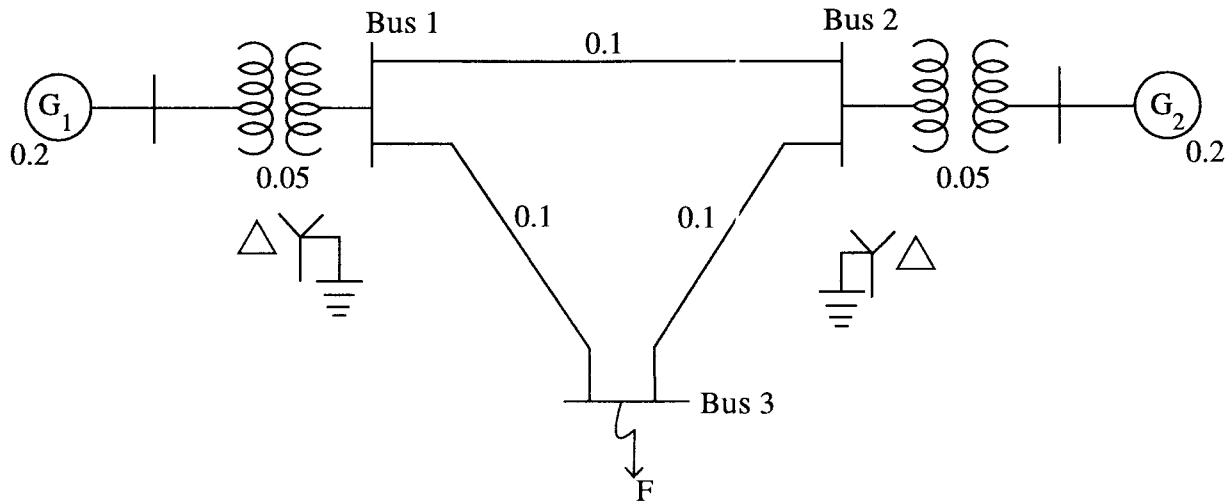

Fig. 5(d)
- Q5. (d) For the power system shown in Fig. 5(d), the p.u. reactances of various components are marked. Assuming the pre-fault voltage as 1.0 p.u., calculate the fault current I_f and the voltages at the Bus 1 and Bus 2 for a solid 3-phase fault on Bus 3.